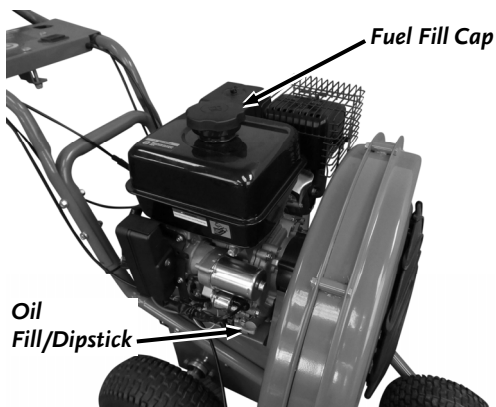

Figure 6
1. Remove the Oil Fill/Dipstick from the right hand side of the engine and wipe the Oil off using a clean Rag (**Figure 6**).
1. Remove the Cap from the Fuel Tank and insert a clean Funnel (**Figure 6**).